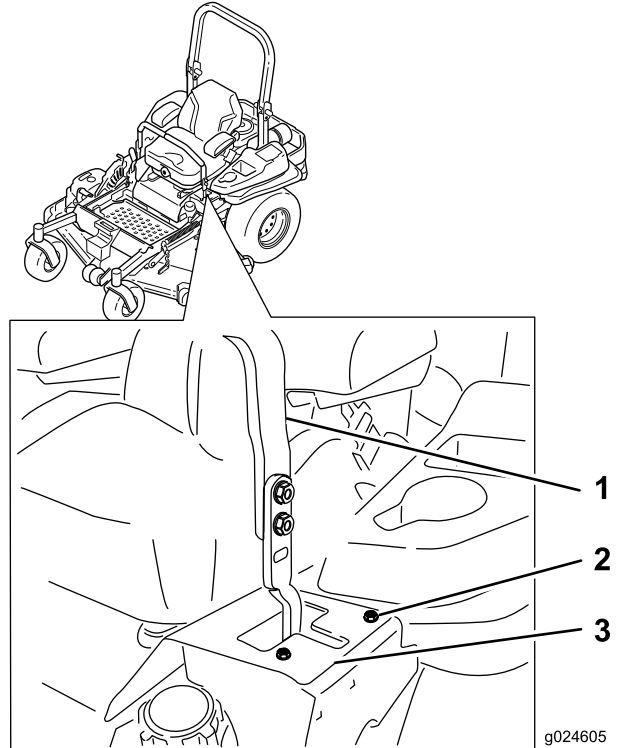

Figure 62
6. If the machine tracks to the right, loosen the bolts and adjust the left stop plate rearward on the left T-slot until the machine tracks straight (Figure 62).
7. If the machine tracks to the left, loosen the bolts and adjust the right stop plate rearward on the right T-slot until the machine tracks straight (Figure 62).
8. Tighten the stop plate (Figure 62).